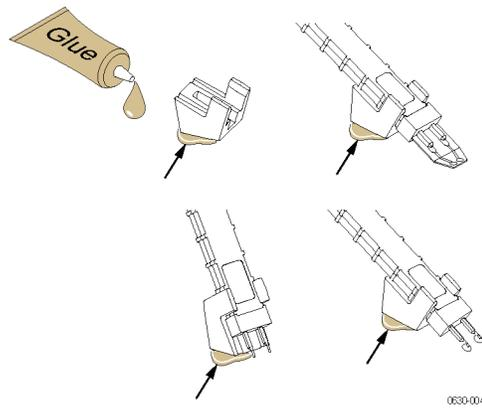

Figure 9: Install the adapter holder by gluing it to the circuit board
2. Position the holder so that the leads of the flex adapter or standard adapter align to the connections on the circuit board and glue the holder into place. (See Figure 9.)